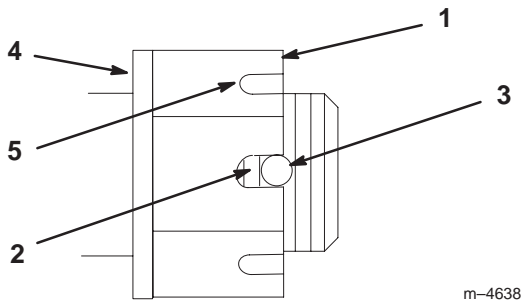

Figure 51
3. Torque the slotted nut to 125 ft–lb (170 N·m) (Fig. 51).
4. Check the distance from the bottom of the slot in the nut to the inside edge of the hole. Two threads or less should be showing (Fig. 51).
5. If more than two threads are showing, remove the nut and install a washer between the hub and nut (Fig. 51).
6. Torque the slotted nut to 125 ft–lb (170 N·m) (Fig. 51).
7. Tighten the nut until the next set of slots line up with the hole in the shaft (Fig. 51).